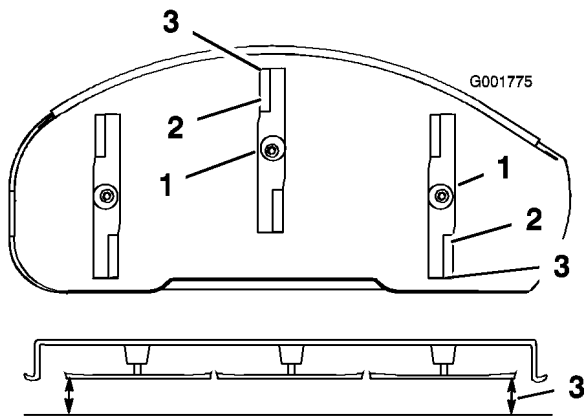

Figure 44
- Set the height-of-cut at position 4 [4 inch (108 mm)] and carefully rotate the blades so they are facing front to rear (Figure 44).
- Measure from the tip of the front blade to the flat surface and the tip of the rear blade to the flat surface (Figure 44). If the front blade tip is not 1/16-5/16 inch (1.6-7.9 mm) lower than the rear blade tip, adjust the front locknuts.